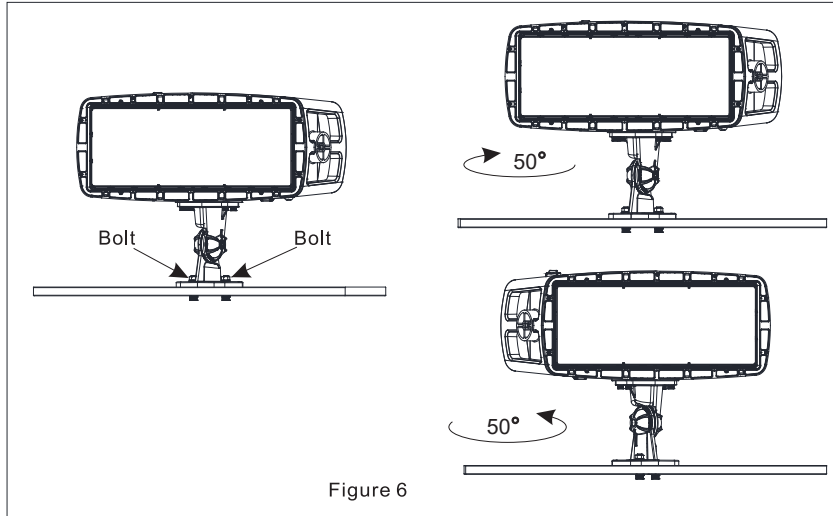

Figure 6
Set the left/right orientation by loosening the (2) bolts in the base of the Universal Mount and turning the base then retorque the bolts to 22.2 ft. lbs. (Figure 6)